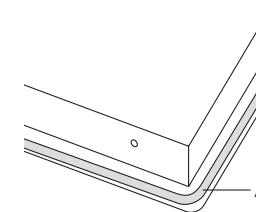

Fig. 15: Sealing strip
- Remove the protective foil from the sealing strip (A) and apply the strip as far out as possible on the underside of the glass (see fig. 15).